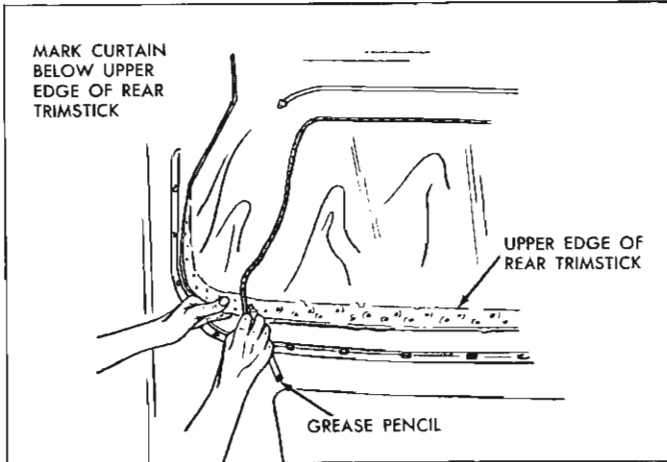

Fig. 57—Locating Edge of Top Material
8. To establish the relationship of right and left inner vertical edge of old top material to back curtain assembly at rear trim stick location, mark back curtain vinyl at both locations with a grease pencil (fig. 57). Reference marks should be transferred to new back curtain when Step 8 of installation procedure is performed.